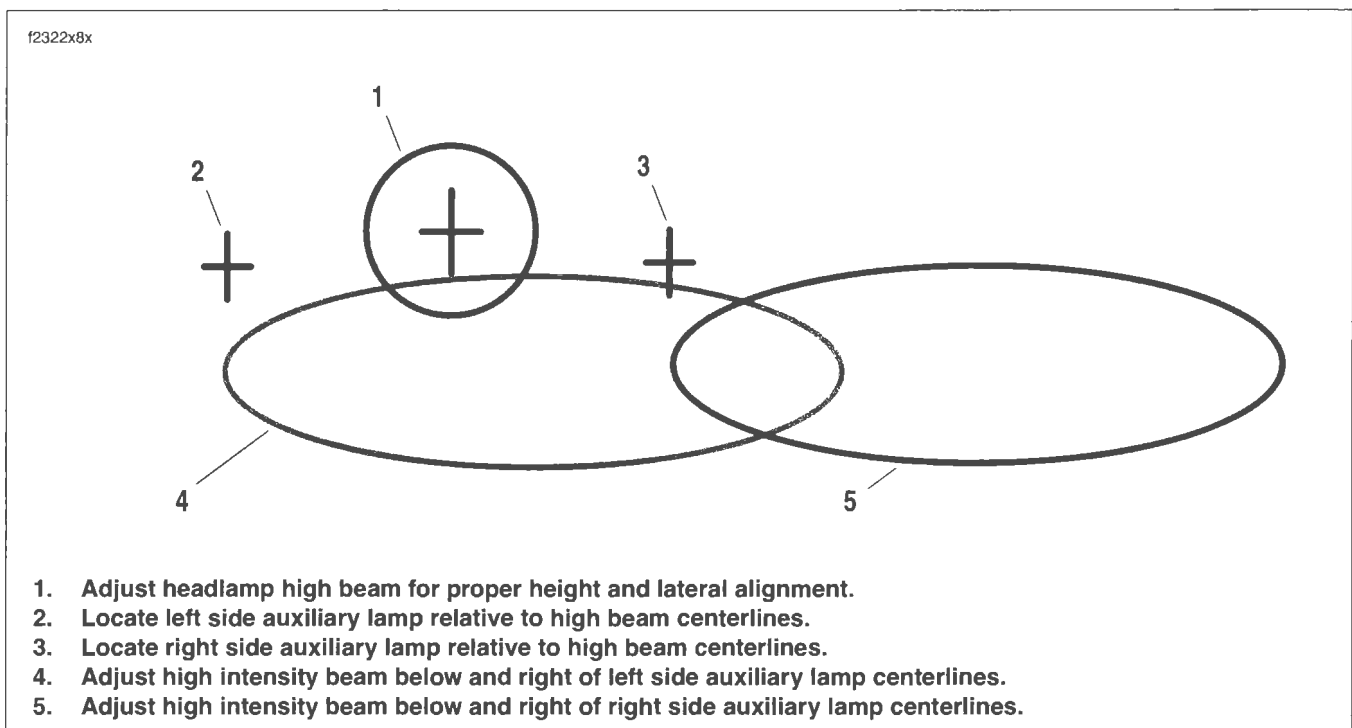

Figure 8-56. Auxiliary Lamp Aiming
3. See Figure 8-56. Mark the center of the headlamp high beam by making a vertical line through the horizontal line already drawn on the wall. Properly adjusted, the beam should project an equal area of light to the left and right of the vertical centerline (1).
9. Turn on the headlamp low beam and then cover both the headlamp and the right side auxiliary lamp. Adjust the left side auxiliary lamp as necessary so that the entire high intensity zone is both below and to the right of the left side auxiliary lamp centerlines (4).
10. Leaving the headlamp covered, remove cover from right side auxiliary lamp and place over left side auxiliary lamp. Adjust the right side auxiliary lamp as necessary so that the entire high intensity zone is both below and to the right of the right side auxiliary lamp centerlines (5).